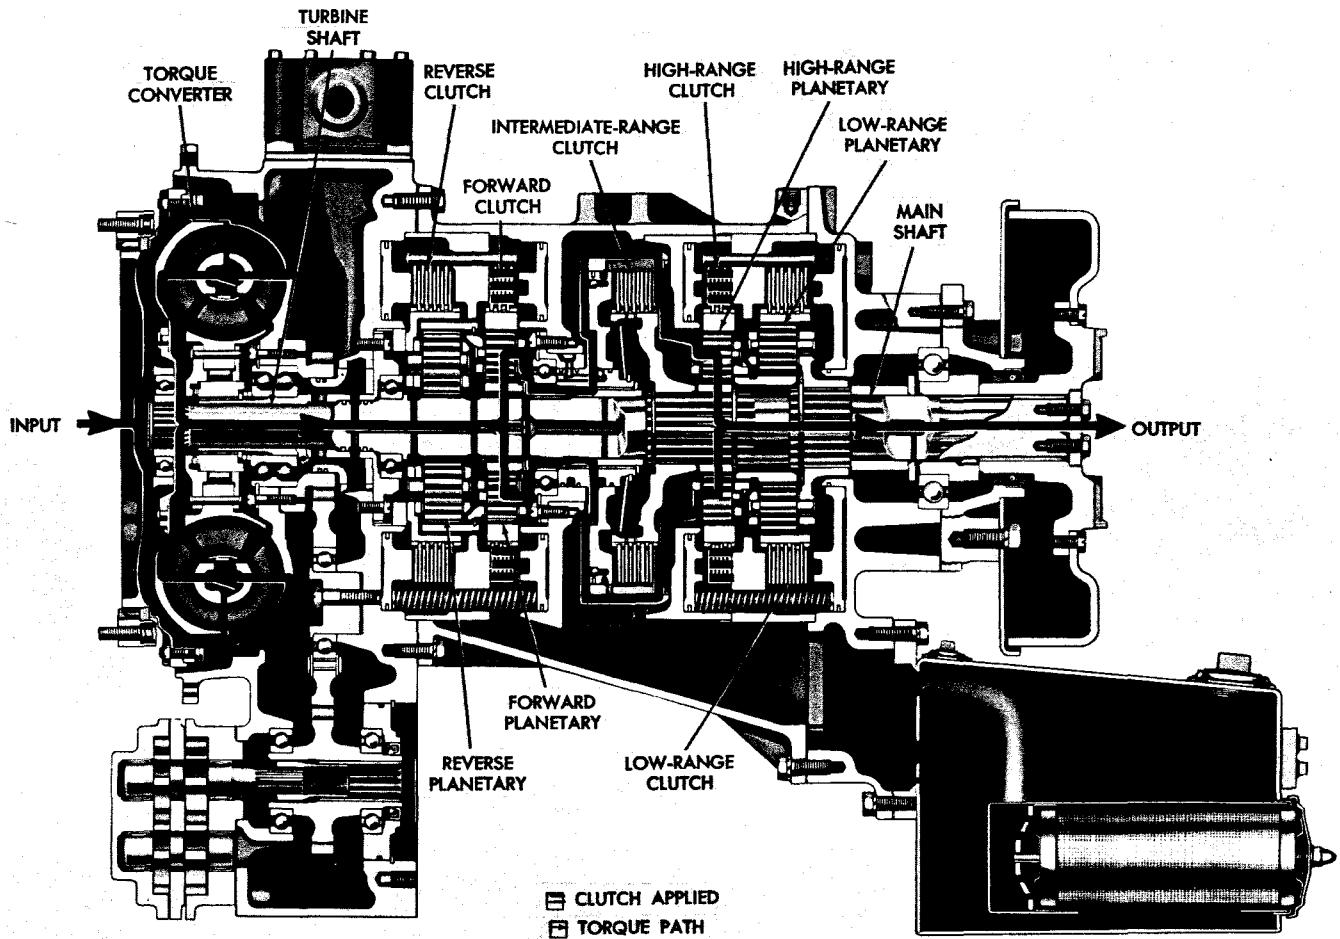

Fig. II-4. Forward, high range—torque path (CRT 3531-3)
26. TORQUE PATH – FORWARD, HIGH RANGE (fig. II-4)